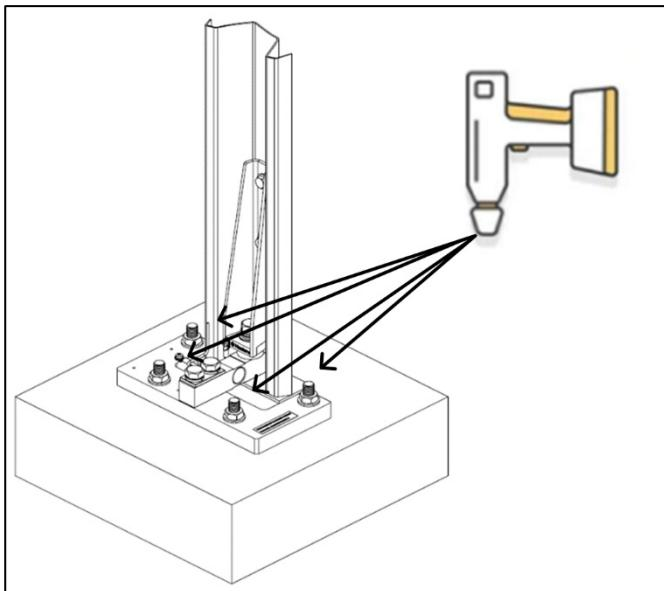

Figure 23: Tightening the wedge assembly nuts
12. Using a cordless impact driver and a deep socket, tighten the wedge anchor nuts to the assembly base. Do this in a diagonal order. The torque should be 200 ft-lb. (Figure 23)